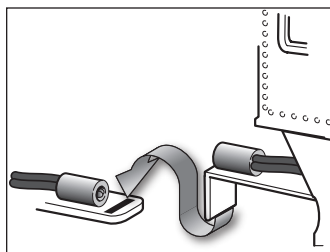

Figure 1. Drawbar connection
2. **Place your locomotive and tender on the track and connect the drawbar as shown in Figure 1.**
- 2. Place your locomotive and tender on the track and connect the drawbar as shown in Figure 1 on page 4.**
**Note!** Power your locomotive with an alternating-current (50-60Hz AC) transformer only. Powering your locomotive with a direct-current (DC) transformer, or in excess of 19 volts AC, may result in damage to sensitive electronic components.
- 1. With track power off, place your locomotive and tender on the track. Connect the drawbar as shown in Figure 1 on page 4.**